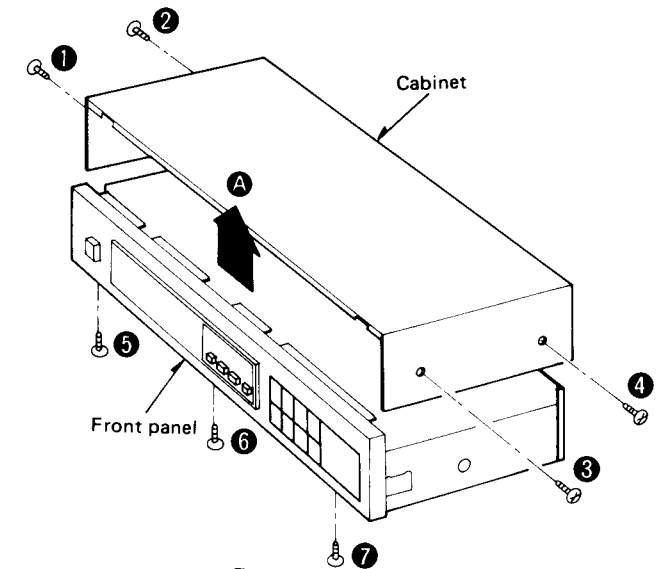
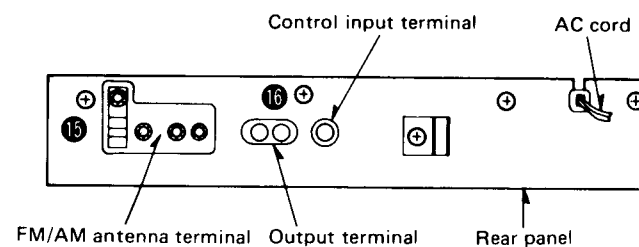
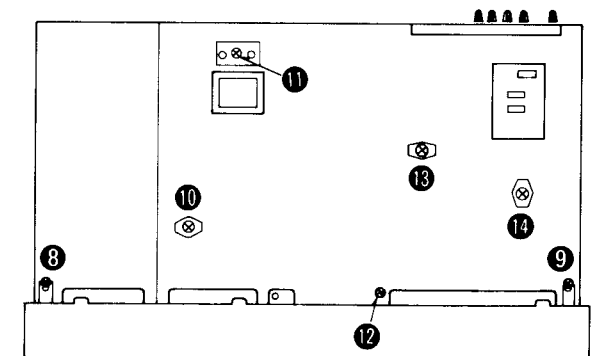

Fig. 1
Fig. 3
Fig. 2
- Remove the 4 setscrews (1 ~ 4 in Fig. 1) of the cabinet.
- Move the cabinet in the direction of the arrow A in Fig. 1.
- Remove the 5 setscrews (5 ~ 7 in Fig. 1 and 8, 9 in Fig. 2) of the front panel and the 7 setscrews (10 ~ 14 in Fig. 2 and 15, 16 in Fig. 3) of the printed circuit board or rear panel.